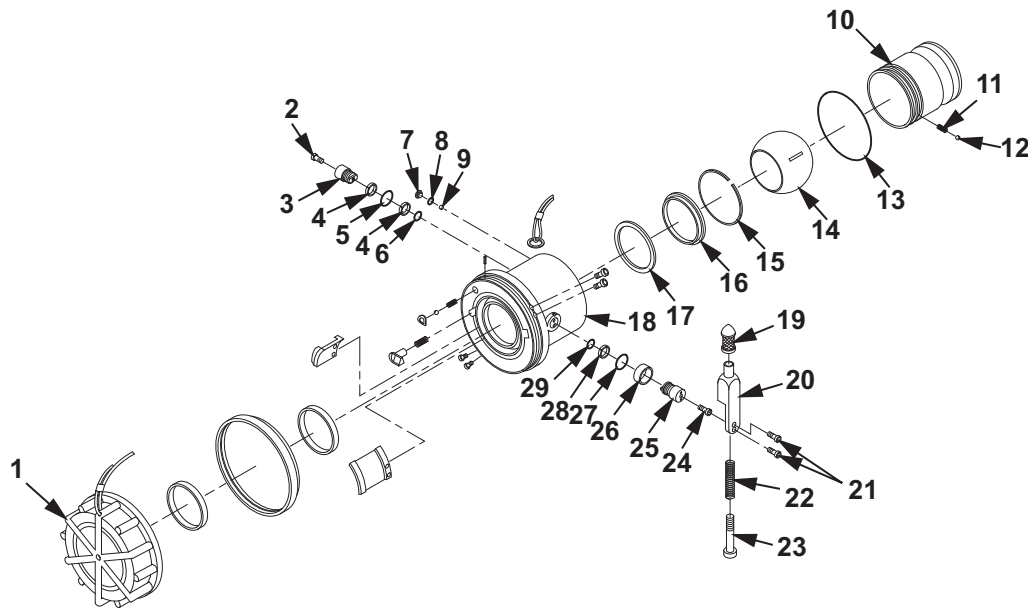

Figure 3. Valved Dry-Break Coupling Assembly.
15. Install new seal (Figure 3, Item 17) in coupling (Figure 3, Item 18).
16. Install seal retainer (Figure 3, Item 16) in coupling (Figure 3, Item 18).
17. Install retaining ring (Figure 3, Item 15) in coupling (Figure 3, Item 18).
18. Install new bushings (Figure 3, Item 4) on lower shaft (Figure 3, Item 3).
19. Lightly lubricate new O-rings (Figure 3, Item 5, 6) with petrolatum and install new O-rings (Figure 3, Item 5, 6) on lower shaft (Figure 3, Item 3).
20. Position ball valve (Figure 3, Item 14) in the open position and install inside coupling (Figure 3, Item 18).
21. Install lower shaft (Figure 3, Item 3) inside coupling (Figure 3, Item 18).
22. Install screw (Figure 3, Item 2) on lower shaft (Figure 3, Item 3).
23. Install new bushings (Figure 3, Item 26, 28) on upper shaft (Figure 3, Item 25).
24. Lightly lubricate new O-rings (Figure 3, Item 27, 29) with petrolatum and install new O-rings (Figure 3, Item 27, 29) on upper shaft (Figure 3, Item 25).
25. Install upper shaft (Figure 3, Item 25) in coupling (Figure 3, Item 18).
26. Install screw (Figure 3, Item 24) on upper shaft (Figure 3, Item 25).
If it was necessary to disassemble control arm (Figure 3, Item 20), perform the following assembly steps.
27. Place spring (Figure 3, Item 22) on screw (Figure 3, Item 23).
28. Install screw (Figure 3, Item 23) into control arm (Figure 3, Item 20).
29. Install knob (Figure 3, Item 19) on control arm (Figure 3, Item 20).
30. Tighten screw (Figure 3, Item 23) hand tight.
31. Position control arm (Figure 3, Item 20) with holes lined up on upper shaft (Figure 3, Item 25).
32. Install screws (Figure 3, Item 21) through control arm (Figure 3, Item 20) and into upper shaft (Figure 3, Item 25).
33. Using torque wrench and screwdriver bit, torque screws (Figure 3, Item 21) to 8 in. lb (0.90 N•m).
34. Lightly lubricate O-ring (Figure 3, Item 13) with petrolatum and install new O-ring (Figure 3, Item 13) in outer groove of inlet adapter (Figure 3, Item 10).
When installing inlet adapter (Figure 3, Item 10), ensure ball bearing (Figure 3, Item 12) and spring (Figure 3, Item 4) are in place.
35. Install inlet adapter (Figure 3, Item 10) into coupling (Figure 3, Item 18).
36. Hold coupling (Figure 3, Item 18) over cleaning cloth with screw hole up, insert all 41 ball bearings (Figure 3, Item 9) into hole.
37. Lightly lubricate new O-ring (Figure 3, Item 8) with petrolatum and install new O-ring on screw (Figure 3, Item 7).
38. Install screw (Figure 3, Item 7) into coupling (Figure 3, Item 18).
39. Using torque wrench and screwdriver bit, torque screw (Figure 3, Item 7) to 72–80 in. lb (8.13–9.04 N•m).
2. While the couplings are connected, rotate control arm (Figure 3, Item 20) to the open position and try to disconnect the couplings by rotating in a counterclockwise direction. If the couplings disconnect, then repair of the valved dry-break coupling assembly is required.
3. Close the control arm (Figure 3, Item 20) and disconnect the valved dry-break coupling assemblies by rotating the couplings in a counterclockwise direction.
6. With the control arm (Figure 3, Item 20) in the open position, apply pressure of 5 PSI (34.47 kPa) to the repaired valved dry-break coupling assembly.